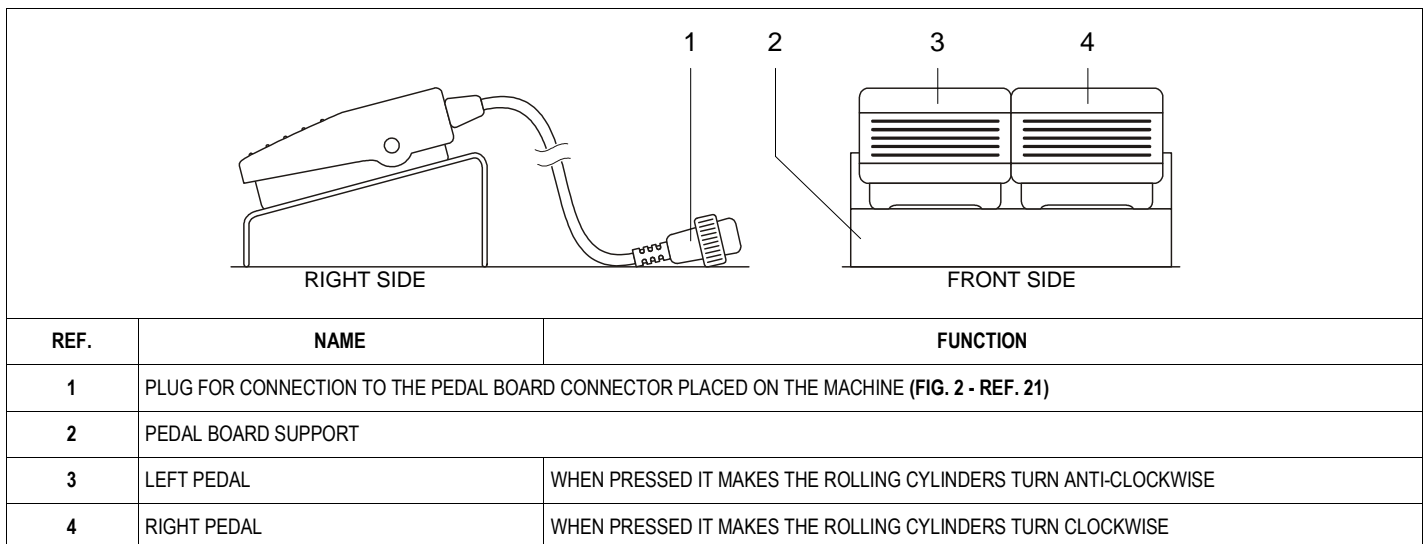

FIG. 10 (Inversion pedal board)
2) *(Only for mod. 2 V)* If necessary, select the processing speed by turning the speed selector to the "1" or "2" pos. (FIG. 10 - Ref. 1);
3) Put the general electric switch in the "1" (ON) pos. (FIG. 10 - Ref. 2);
4) *(Only for mod. VAR 1 PH)* If necessary select the processing speed by using the control panel (see FIG. 10);
6) Adjust the desired dough thickness using the handle (FIG. 10 - Ref. 3);
7) *(Only for mod. 1 V - 2 V - 1 PH)* Start the machine by pressing the "START" button (FIG. 10 - Ref. 6);
8) *(Only for mod. VAR 1 PH)* Start the machine by pressing the "START" button (FIG. 10 - Ref. 11);
9) Choose the movement direction of the conveyor belts using the joystick (FIG. 10 - Ref. 5);
11) Once the desired thickness has been reached (end of cycle), wait for the dough to come completely out of the rolling cylinders (FIG. 2 - Ref. 24) and put the joystick into "0" pos. (FIG. 10 - Ref. 5);
1) Switch the machine off, putting the general electric switch in the "0" (OFF) pos. (FIG. 10 - Ref. 2);
The emergency stop can be carried out by pressing the “Emergency stop” button installed on the control panel (FIG. 10 - Ref. 4). In order to prevent dangerous situations happening immediately or being caused, the trained operator must perform the operations shown in TAB. 15.